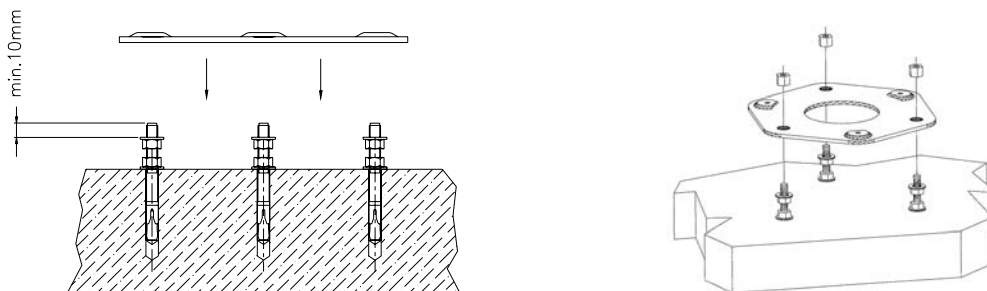

Fig.4
- The second hexagonal nuts followed by the washers serve to rest the plate (fig.4);